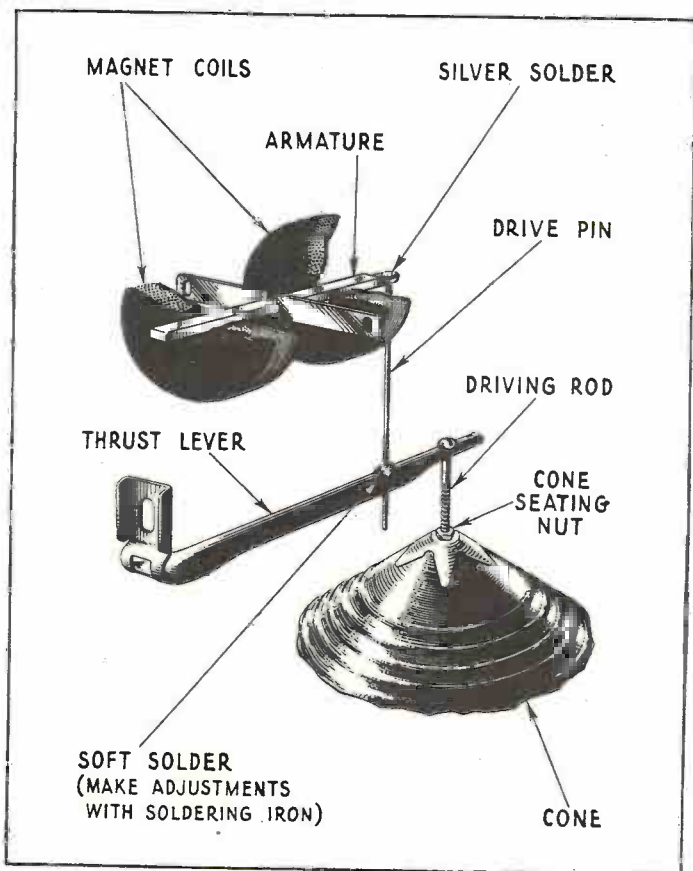

Fig. 52 - Speaker-driving mechanism.
(14) Magnetic Cone Speakers. The testing of magnetic cone speakers is similar to that of dynamic speakers, the main difference being that the magnetic instruments employ permanent magnets and have no field supply, making the localizing of trouble easier. Since these speakers employ a high-impedance coil wound in a small space with many turns of fine wire, open coils are a frequent occurrence. A continuity test at the coil terminals will reveal the condition of the coil. It is best to disconnect the flexible connecting cord, as this may be shorted from dampness or open circuited. The cord should then be tested separately. Speech-input transformers are sometimes employed with these speakers, but usually there are an output choke and condenser, arranged to prevent the D.C. component of the plate current from flowing through the speaker unit winding and destroying it or unbalancing the unit or weakening the permanent magnet. Tests on this apparatus are described in connection with dynamic speakers. Fig. 52 shows the coils, armature and driving mechanism of the R.C.A. Model 100 A speaker.